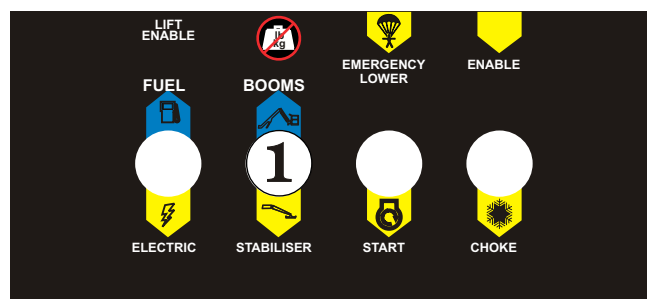

Figure 10.5 - Set Boom Stabiliser Switch
Ensure the Boom/Stabiliser Switch (item 1 on the ground control box) (see Figure 10.5) is set to stabiliser.